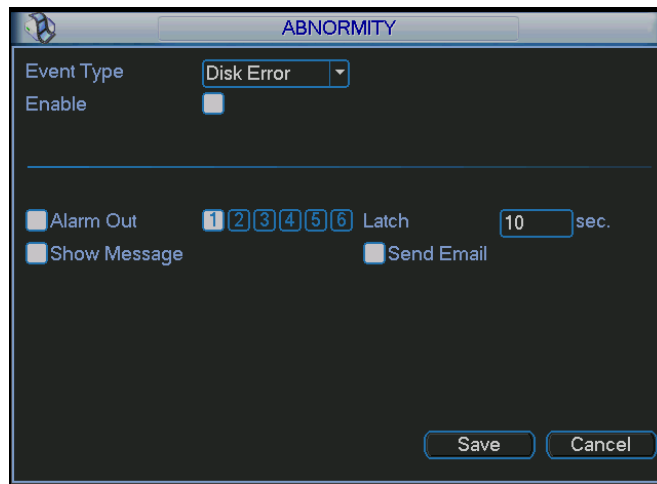

Figure 4-84
- Alarm set: Click alarm set button, the interface is shown as below. See Figure 4-84. (This interface is just like the abnormality setup). Please refer to chapter 4.7.2 for detailed information.